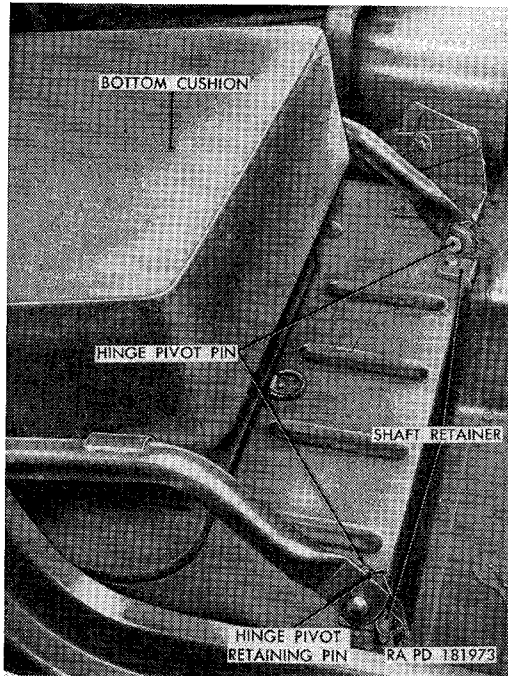
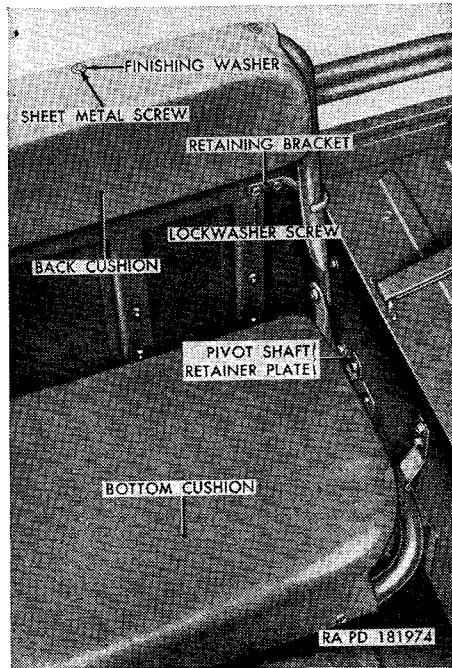

Figure 192. *Passenger seat assembly (M38A1)—installed.*
Figure 193. Rear seat assembly (M38A1)—installed—left side view.
b. Passenger Seat Assembly (fig. 192).
- (1) *Removal.* Remove the front seat hinge pivot retaining pin from each of the two front seat hinge pivot pins. Tilt the passenger seat assembly forward until the flat sides on the pivot pins are aligned with the shaft retainer slots, and lift the seat out of the driver's compartment.
- (2) *Installation.* Position the passenger seat assembly over the pivot shaft retainers mounted on the top of the tool compartment, align the pivot pin flat sides with the retainer slots and insert the pivot pins into retainer. Tilt seat backward to lock it in place. Lock the pivot pins to the retainers by installing one front seat hinge pivot retaining pin in the end of each hinge pivot pin.
c. *Rear Seat Assembly* (fig. 193).
- (1) *Removal.* Remove four lockwasher screws from two rear seat retaining brackets and remove the brackets from the body. Lift up on the seat bottom, folding it toward the seat back, and set the seat assembly in the vertical position. Remove the lockwasher screw from the rear seat pivot shaft retainer plates at each end of the seat frame, and remove
- (2) *Installation.* Place the seat bottom cushion on the bottom of the seat frame, align the two integral mounting clips with the mounting brackets on the frame, and slip the cushion into position on the frame. Secure the bottom cushion to the bottom of the frame with two  $\frac{5}{16} \times \frac{5}{8}$  lockwasher screws. Position the seat back cushion at the top of the seat frame and secure cushion to frame with twelve No. 12 finishing washers and No. 10  $\times \frac{1}{2}$  sheet metal screws. Install the driver's seat assembly (a(2) above). Install the passenger seat assembly (b(2) above).
*e. Rear Seat Cushion Assemblies (fig. 193).*
- (1) *Removal.* Remove the rear seat assembly (*c*(1) above). Remove the 10 sheet metal screws securing the rear seat bottom cushion to the bottom of the rear seat frame and lift cushion off the frame. Remove the 10 sheet metal screws and finishing washers securing the rear seat back cushion to the top of the rear seat frame, and remove the cushion.
- (2) *Installation.* Position the rear seat bottom cushion on the bottom of the rear seat frame and secure cushion to frame with ten No. 10 finishing washers and No. 10 x 1/2 sheet metal screws. Position the rear seat back cushion at the top of the rear seat frame and secure cushion to frame with ten No. 10 finishing washers and No. 10 sheet metal screws.